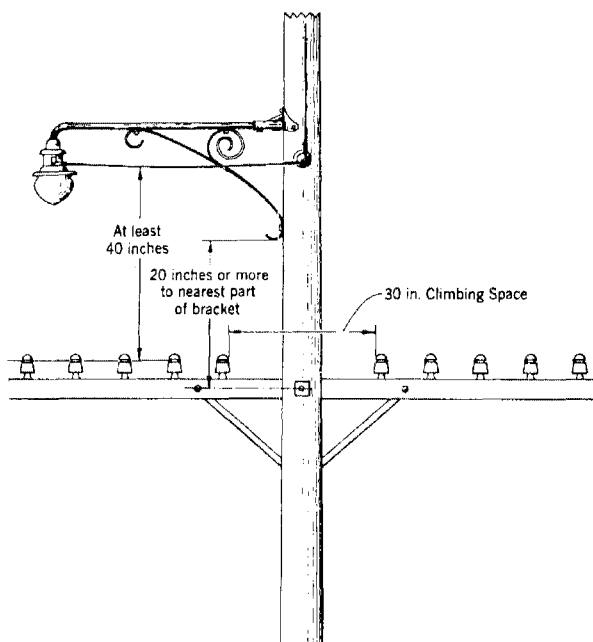

Fig. 1
2.03 Telephone crossarm through bolts shall be 20 inches from streetlight fixtures which are above them, or 24 inches if fixtures are below, regardless of whether the fixture is grounded or not. (See Figs. 1 and 5.)